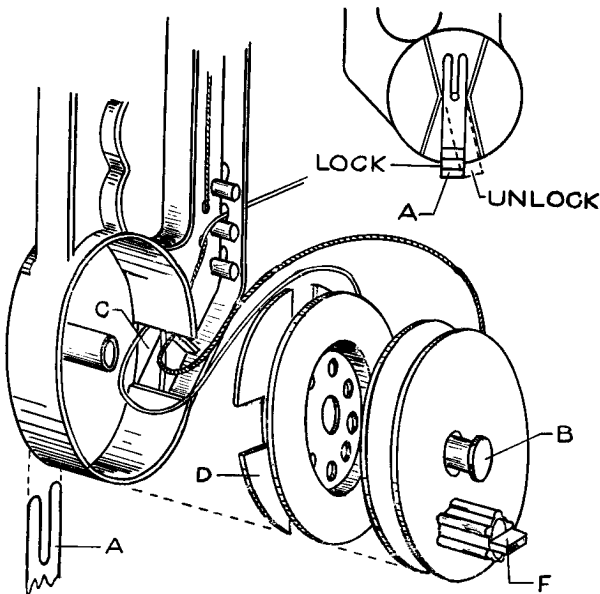
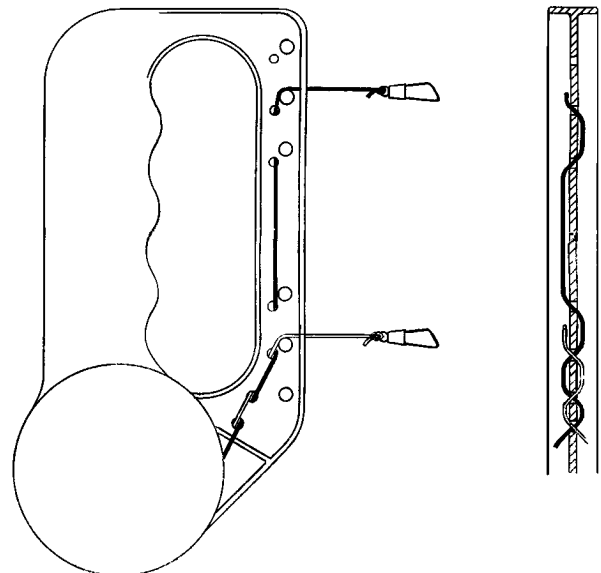

FIG. 3
FIG. 4
1. First lift Spring A, figure 3, and slide it out. This lets pins B come out and also the two spools. Unroll the nylon line from spool D, Figure 3. There is enough line for two 35 foot control lines. Double the line back, and cut it in two. Put the end of the line through the tiny hole in the reel, knot it so it will not pull out and wind it on the spool, one line on each spool. Roll it on so the line does not become twisted. Be sure to wind the lines on in the correct direction.
Replace the spool D with the notched side toward the back of the case and with the end of the line going out through hole C, Figure 3. Re-assemble the other reel, pin, and spring. Lace the lines through the holes in the case to the desired flying position and tie on the snaps as illustrated in Figure 4.
2. Knob F, Figure 3, when turned to the raised position dis-engages the reels from each other so the length of the lines can be adjusted individually for the best control position of the handle. Always turn the knob to the raised position to unreel the lines. This will prevent the lines from becoming tangled in the case. To unreel the lines raise spring A, figure 3, and move it to one side. Turn knob F to the raised position. Pull out the lines and adjust them to the same length. Lock the reels with spring A and snap knob F down. Before flying, again check the handle position with tight lines after they are attached to the plane. After flying, merely move spring A to one side and wind the lines, walking up to the plane as you do so.